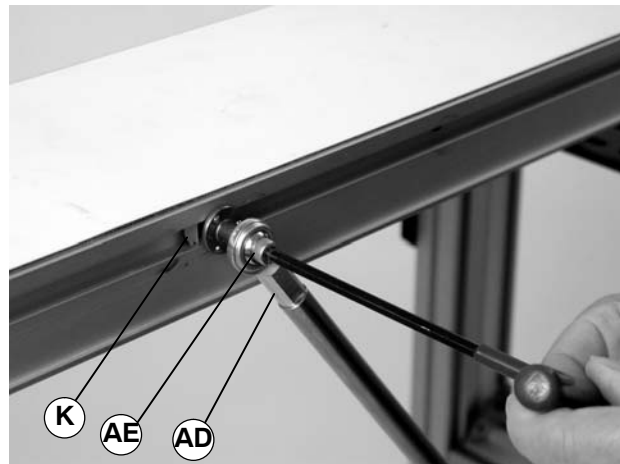

Figure 12
- b. Attach the diagonal brace end (AD of Figure 12) to the t-bar (K) with a socket screw (AE).
<p>WARNING</p> <p>Failure to secure screw (AE of Figure 12) may cause conveyor sections to drop down causing severe injury.</p> <p>TIGHTEN SCREW (AE) AFTER ADJUSTMENT.</p>
- c. Tighten screw (AE of Figure 12) to 100 in-lb (11 N-m).